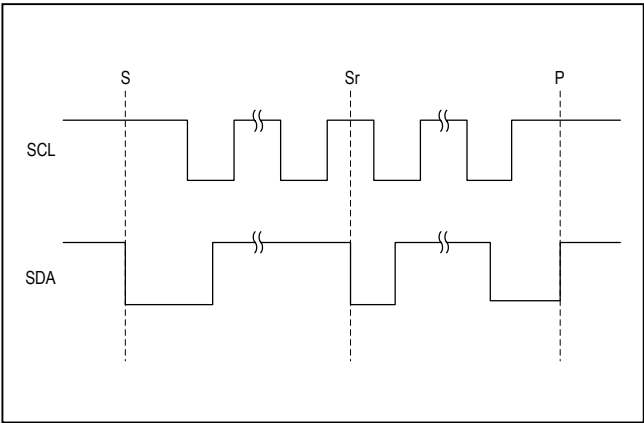

Figure 2. START, STOP, and Repeated START Conditions
A master device initiates communication by issuing a START condition. A START condition is a high-to-low transition on SDA with SCL high. A STOP condition is a low-to-high transition on SDA while SCL is high (see Figure 2). A START (S) condition from the master signals the beginning of a transmission to the IC. The master terminates transmission, and frees the bus, by issuing a STOP (P) condition. The bus remains active if a Repeated START (Sr) condition is generated instead of a STOP condition.